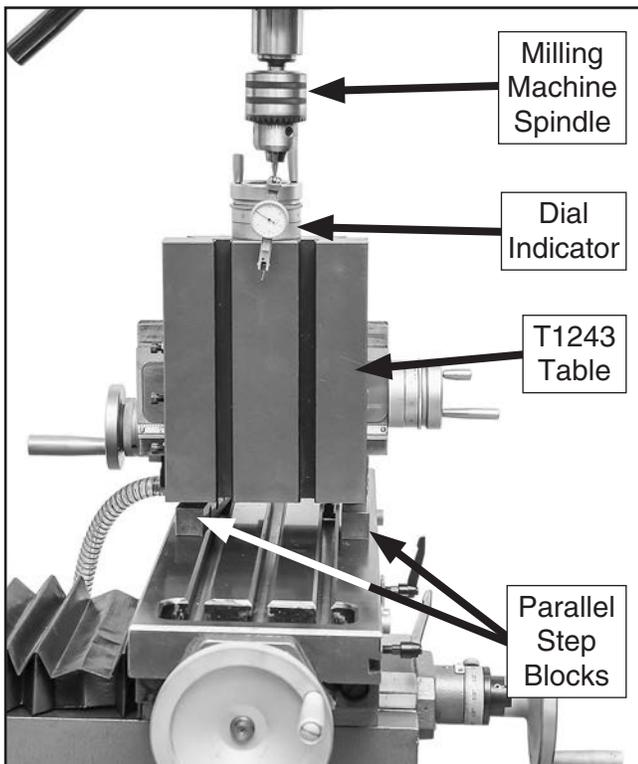

Figure 17. Using a dial indicator to align T1243 table with milling machine X-axis.
2. Place T1243 vertically on step blocks so that table sits beneath milling machine spindle, as shown in **Figure 17**. Mount T1243 to mill table with T-bolts and hold-down clamps. Finger-tighten fasteners.
3. Install dial indicator in milling machine spindle, then use dial indicator to indicate one side of face or back of a workpiece mounted on T1243 table (see **Figure 17**).